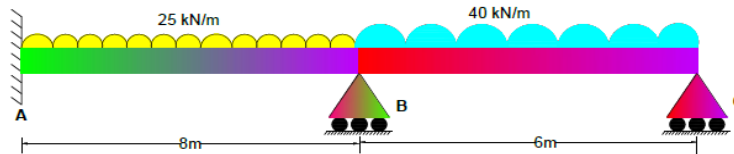

Fig 4
- (b) Analyze the bending moments for the two span continuous beam loaded as shown in fig 4 by Equilibrium method. Assume EI is not uniform throughout. CO4-Ana (16)